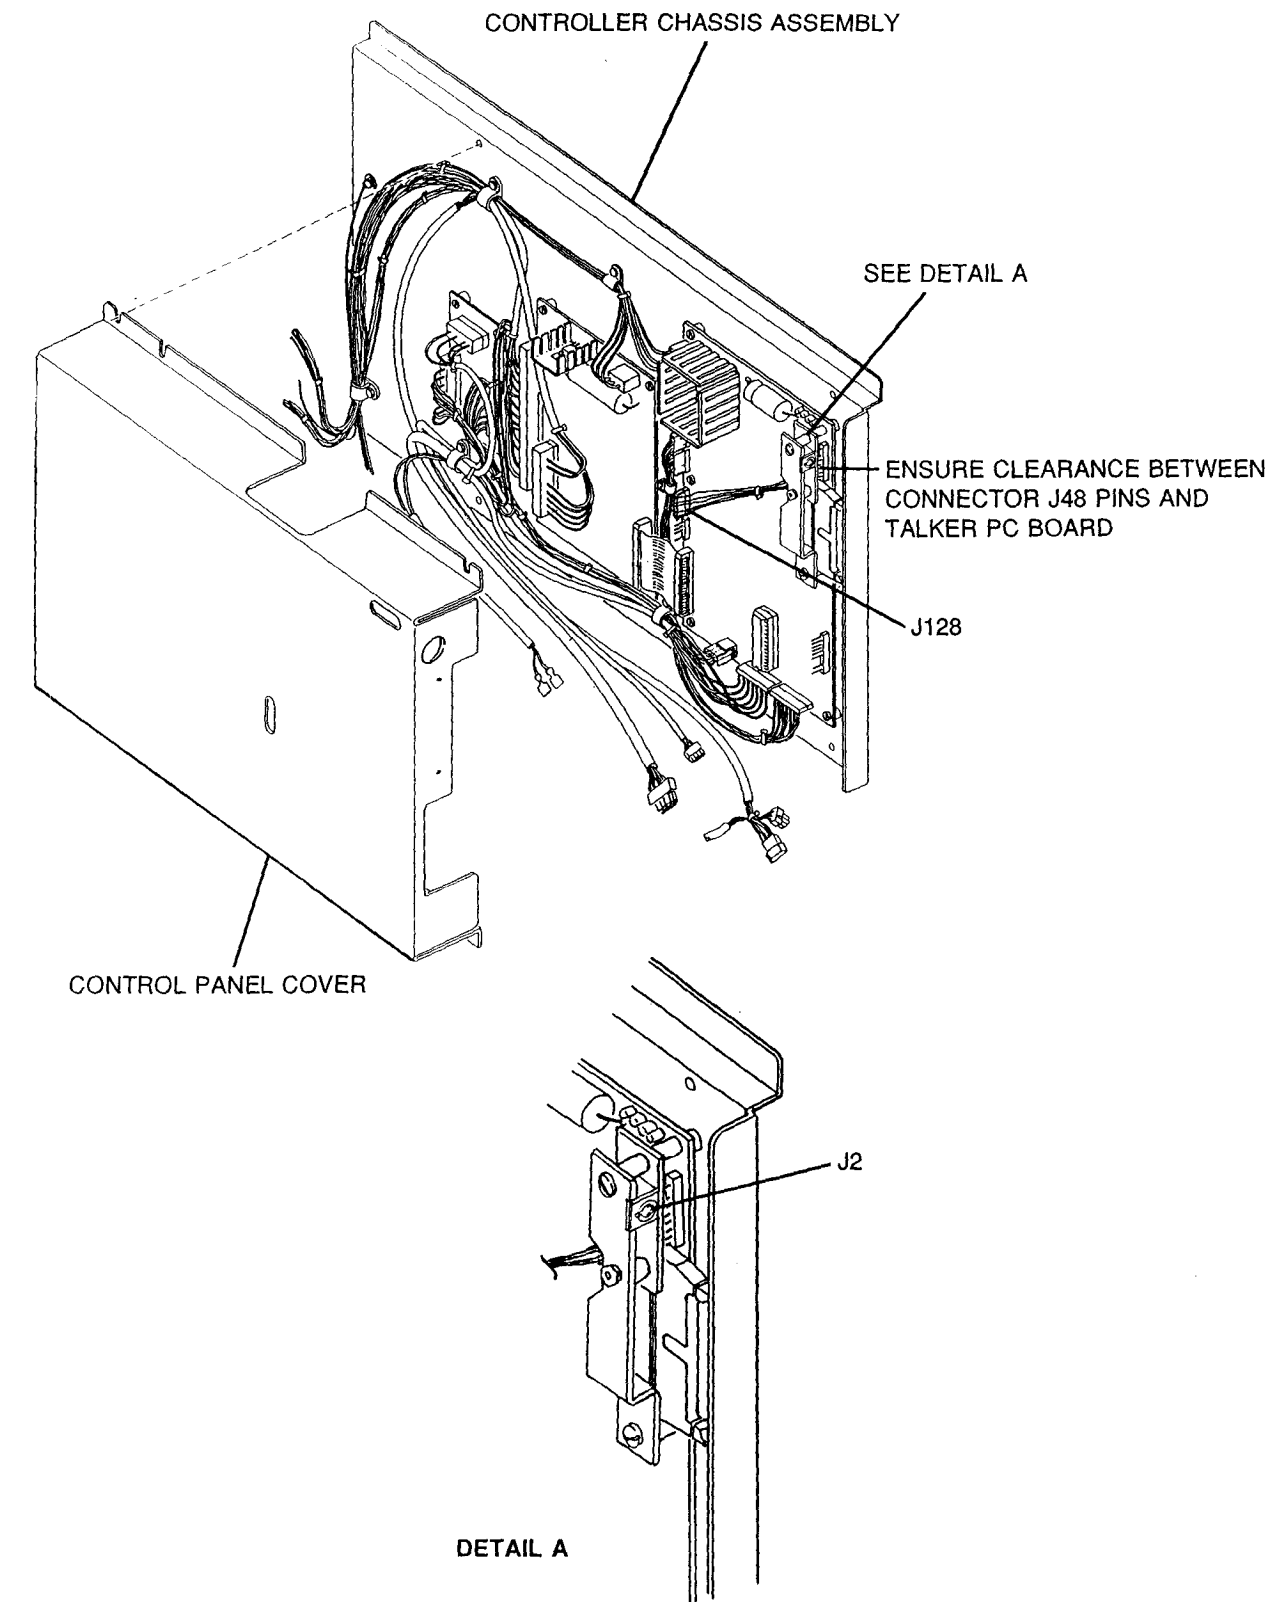

Figure 4
4. Install the talker option assembly as shown in Figure 4 making sure the longer screw (1306111) is in the upper mounting position and the remaining screw (2361064) is in the lower mounting position. Be sure the underside of the pc board does not touch the pins of connector (J48) on the controller board.